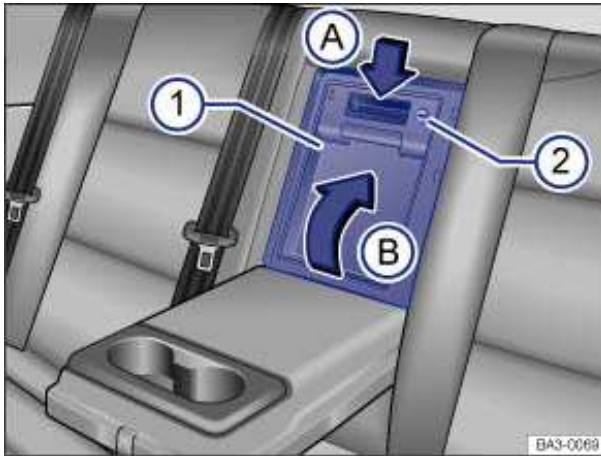

Fig. 113 In the rear seat backrest: Opening luggage compartment pass-through with lock.
- If the pass-through is equipped with a lock, use the Valet Parking key to unlock the luggage compartment pass-through ⇒ fig. 113 \(2\).
- Working from the vehicle passenger compartment, guide the pass-through cover (1) into the luggage compartment and engage it in its bracket.
- If the pass-through is equipped with a lock, use the Valet Parking key to lock the luggage compartment pass-through ⇒ fig. 113 \(2\).